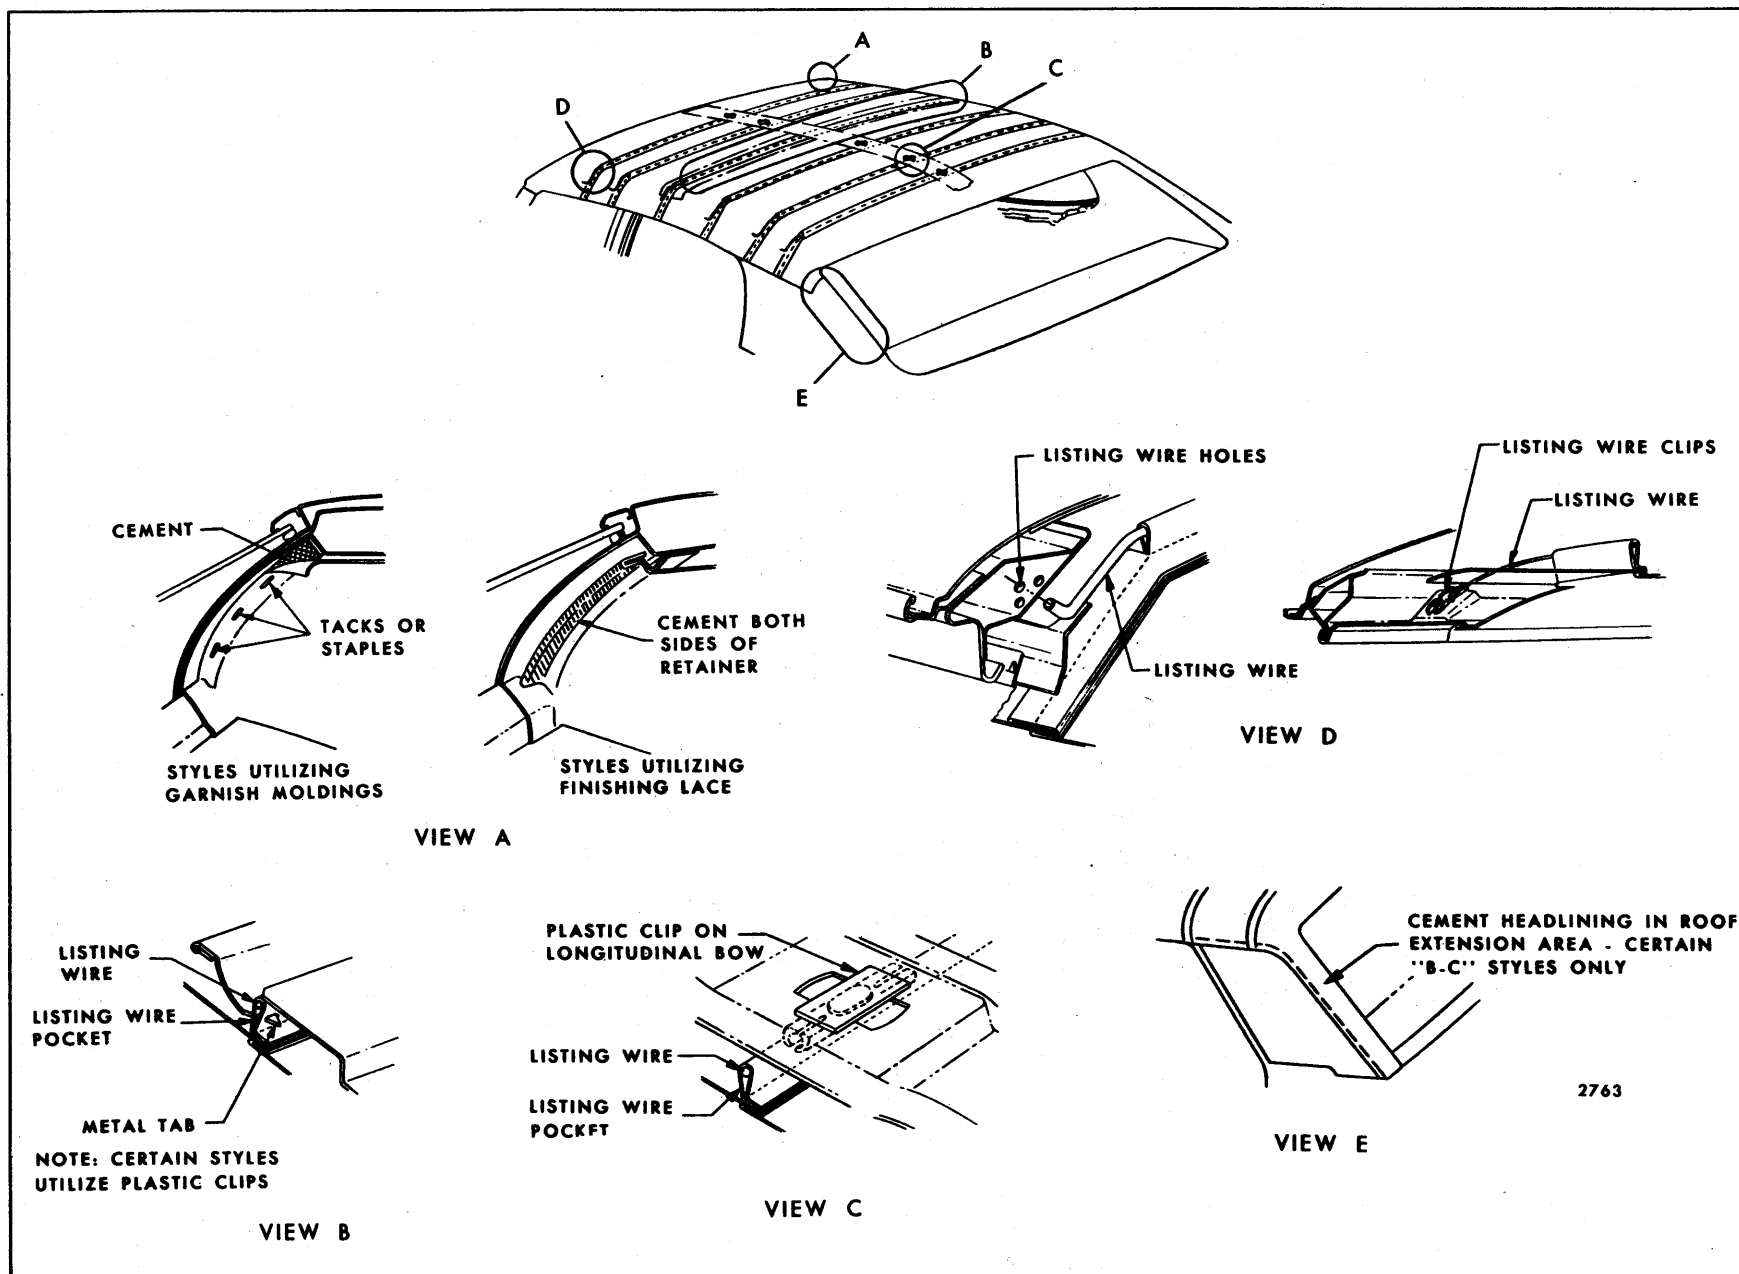

Fig. 11-1—Typical Cloth and Vinyl Headlining Installations
On certain styles, the listing wires are further attached to the roof panel by snap-in type clips on the front to rear longitudinal roof bow (Fig. 11-1, View "C").
Where garnish moldings are utilized the headlining is tacked or stapled in addition to being cemented at the windshield and back window or back body opening (See Fig. 11-1, View "A").
- 6. Starting at front of body, carefully disengage No. 1 and No. 2 listing wires from side roof inner rails and supporting clips on longitudinal (front to rear) bow on styles so equipped (See Fig. 11-1, View "C"). In like manner, working from rear of body, disengage listing wires from side roof rails and supporting clips on longitudinal bow. Exercise care to keep headlining material clean by gathering or folding headlining with listing wires on outside.
- 2. Apply an approved non-staining trim cement to headlining attaching surface at windshield, side roof rail and back window or back body opening. On styles that utilize finishing lace be certain cement is applied to both sides of retainers (See Fig. 11-1, View "A").
- 3. Lift headlining assembly into body and install No. 3 listing wire and listing wire pocket over metal tabs at roof bow and bend up tabs to secure wire to bow. On styles that incorporate plastic clips in place of metal tab, snap No. 3 listing wire into clips (See Fig. 11-1, View "B" and "C").
- 4. Working rearward from No. 3 listing wire, install listing wires in side roof rails and snap listing wires into plastic clips on longitudinal bow (on styles equipped with longitudinal bow). In like manner, working forward, install remaining listing wires (See Fig. 11-1, View "C").
**NOTE:** Listing wires may be adjusted up or down by utilizing appropriate holes in side roof rails. Listing wires should rest tight against roof panel after installation (See Fig. 11-1, view "D").